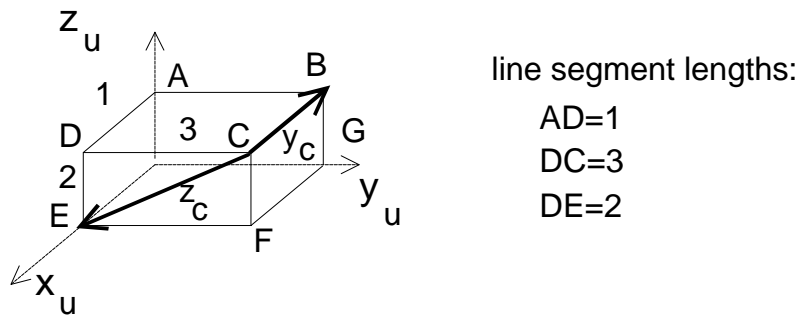

Fig. 5
3. a. Frame C is attached rigidly to one corner of a cuboid as shown in Fig. 5. The z axis of frame C is directed from point C to E. The y axis of frame C is directed from point C to B. Determine the  $4 \times 4$  homogeneous transformation matrix  ${}^U T_C$  that describes the position and orientation of frame C in frame U.